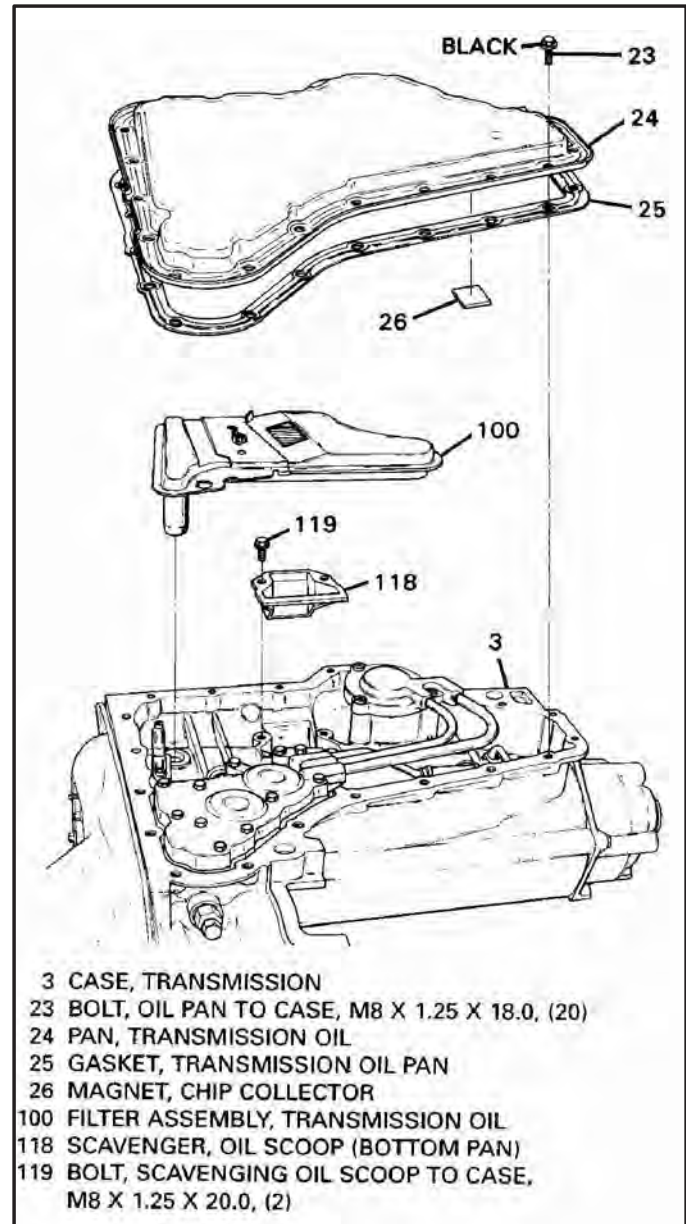

Figure 42
1. Remove the 20 bottom pan bolts and remove bottom pan, as shown in Figure 42.
2. Remove and discard bottom pan gasket, as shown in Figure 42.
3. Remove and discard the bottom pan filter, as shown in Figure 42.
4. Remove the oil scoop scavenger using a 13mm socket on speed handle (See Figure 42).